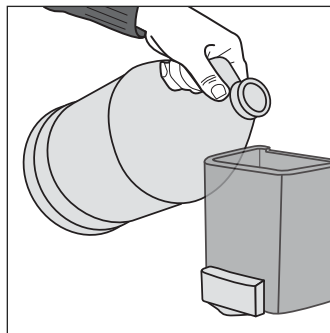

Figure 5
- Open dispenser. Flush tank and pump mechanism with warm water to remove residue and contaminate. Refill with new soap and replace lid. (See Figure 5)